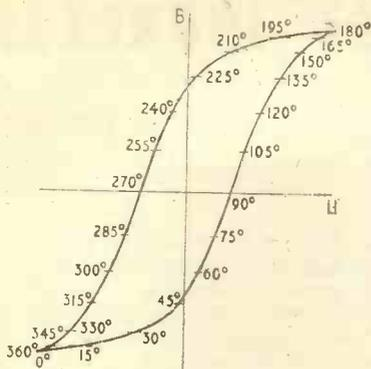

Fig. 2. Hysteresis curve as in Fig. 1, marked with phases of a sinusoidal applied e.m.f.
Fig. 3. Diagram of Fig. 2 turned through a right angle for conveniently drawing a H/θ curve, which has the same waveform as the current, i. The e.m.f. e is shown for comparison.
Next, we want to find the values of B corresponding to sufficient other phases in the voltage cycle. I suggest every 15° . The numbers by which to multiply B_{max} are $-\cos 0^\circ (= -1)$, $-\cos 15^\circ (= -0.966)$, etc. Fig. 2 shows the diagram at this stage.
where l is the length of the core (again, assumed to have constant cross-section). Current being directly proportional to H, we can plot its curve from Fig. 2 and use equation (3) if we want to provide it with a scale in amps. The easiest way of transferring the plots is to turn Fig. 2 on its side, as in Fig. 3. A sine wave is plotted too, to represent e for comparison. The shape of the i curve will be familiar to anyone who has used an oscilloscope on iron-cored coils. But we can take a more intelligent interest in it by tracing its generation as suggested.